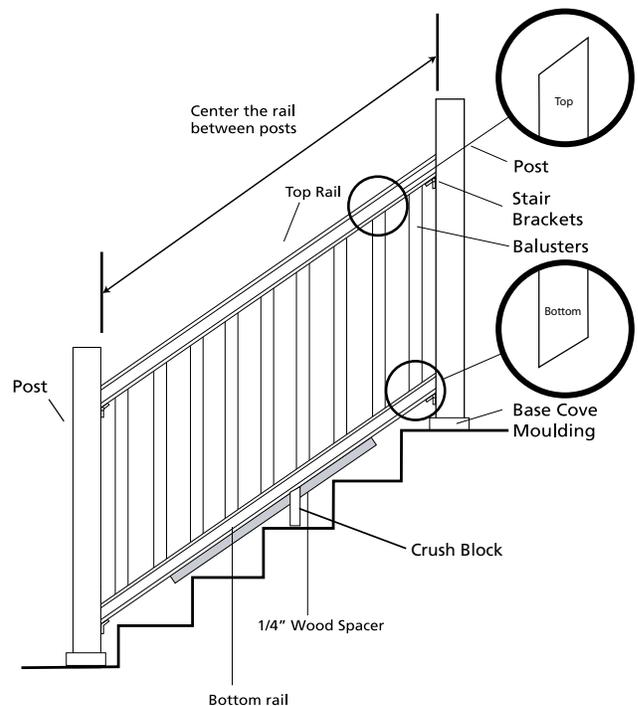

Figure 29
8. Ensure that the base cove moulding is in place at the bottom of the posts (Figure 29).
12. Lay the bottom rail, with the routed holes upward, onto a 1/4" wood spacer located between the posts (Figure 29). This provides the rail spacing between the rail and stair treads and helps to stabilize the setup.
18. Mark the stair angle on one end of each baluster to be used (Figure 29).
19. Cut the composite square baluster at an angle on the top and bottom of each baluster (Figure 29).
20. Fully insert the top ends of the balusters into the routed holes of the top rail. The angled cut of the baluster should be parallel with the length of the top rail. (Figure 29).
(Consult local building official for the proper spacing between the deck and the railing). Place crush block on the stair tread surface midway between the posts (Figure 29).